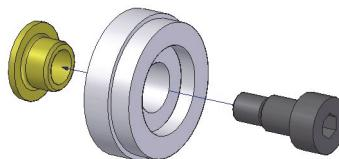

Figure 3-5 Idler-wheel assembly detail
3. Press the plastic bushing (spacer) into the magnetized wheel, then slide the shaft screw through the wheel from the other side (see Figure 3-5 on page 33).